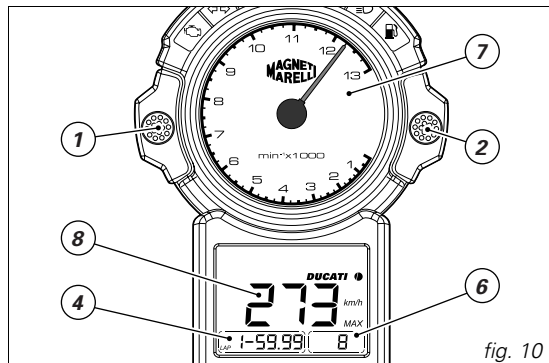
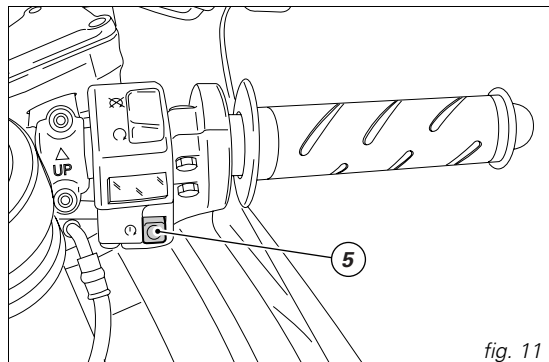

fig. 10
fig. 11
Lap time recording (fig. 10 and fig. 11)
Select TRIP indication in the display (4, fig. 10). Press the engine start button (5, fig. 11) while riding to start the on-board chronometer. When button (5) is pressed again, the chronometer will stop and at the same time will start the on-board chronometer to read the 2nd time.
Saved lap time display function (fig. 10)
After measuring lap times, up to 19 times may be retrieved and displayed on the LCD. After switching the bike off, press button (2, fig. 10) and turn the key from OFF to ON in order to access the function.
From inside the function, pressing the button (1, fig. 10) will scroll through recorded times. The instrument panel provides the following information:
- Lap number (6);
- Top engine rpm (7, fig. 10) during selected lap;
- Lap time (4, fig. 10);
- Top speed (8, fig. 10) during that lap.
To wipe off recorded lap times, hold down the (2, fig. 10) button for over 5 seconds.
When the engine is started, the system turns off the headlights and only turns them back on again when the engine has started or when the starter button is released (5, fig. 11).
1) if the CPU recognised the code, the light (12, fig. 5) on the instrument panel will flash briefly. This means that the immobilizer system has recognised the key code and enabled engine ignition. When you press the START (5, fig. 11) button, the engine will start up.